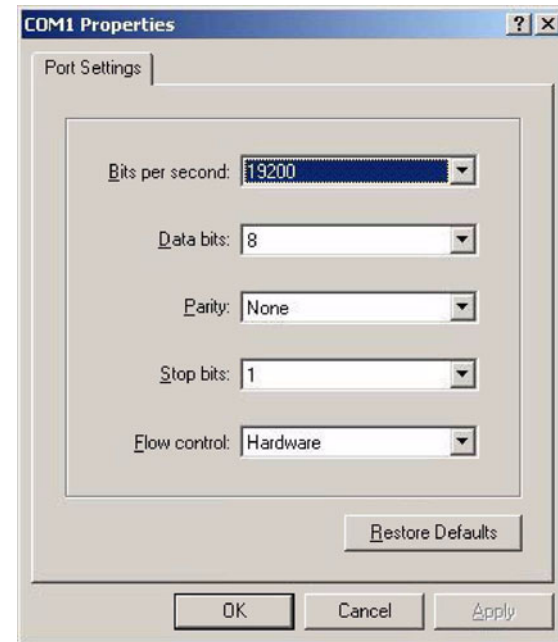

Figure 6 Communication Settings
9. The next window requests the appropriate communication settings for that comm. port. Then click **OK** or press **Enter (Figure 6)**.